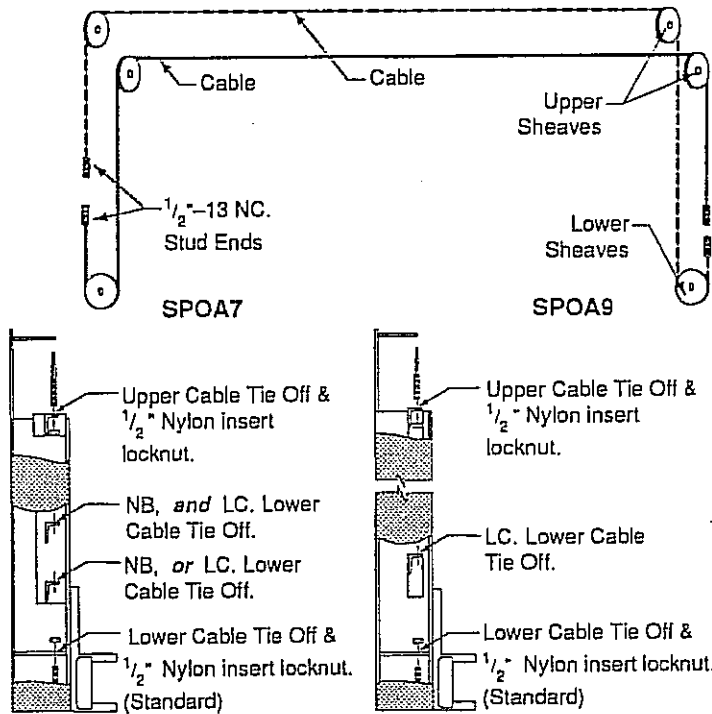

Fig. 10
11. **Equalizing Cables:** Fig. 10 describes general cable arrangement. It's easier to tie off lower studs first. Run cable stud up thru the lower tie off plate, and bracket(s) depending on lift model, using $\frac{9}{16}$ " hole. Push cable up until stud is above top of carriage tube. Run nylon insert locknuts onto studs so that $\frac{1}{2}$ " extends out from top of locknut, then pull cable back down, Fig. 10. Run cable overhead and tie off top studs torquing to about 10 ft.-lbs.